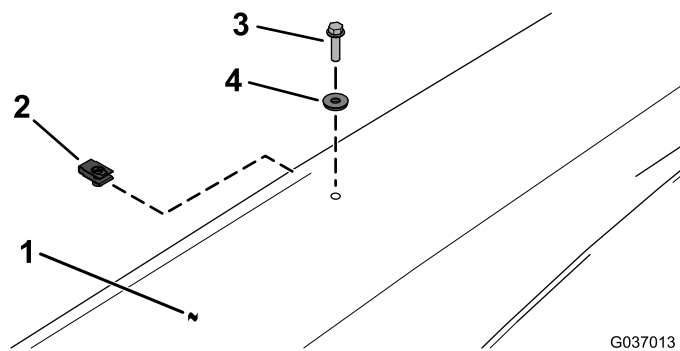

Figure 14
15. Install the sunshade to the roof-support bracket using 2 clips, 2 sealing washers, and 2 hex-flange bolts (1/4 x 1 inch) as shown in Figure 14.